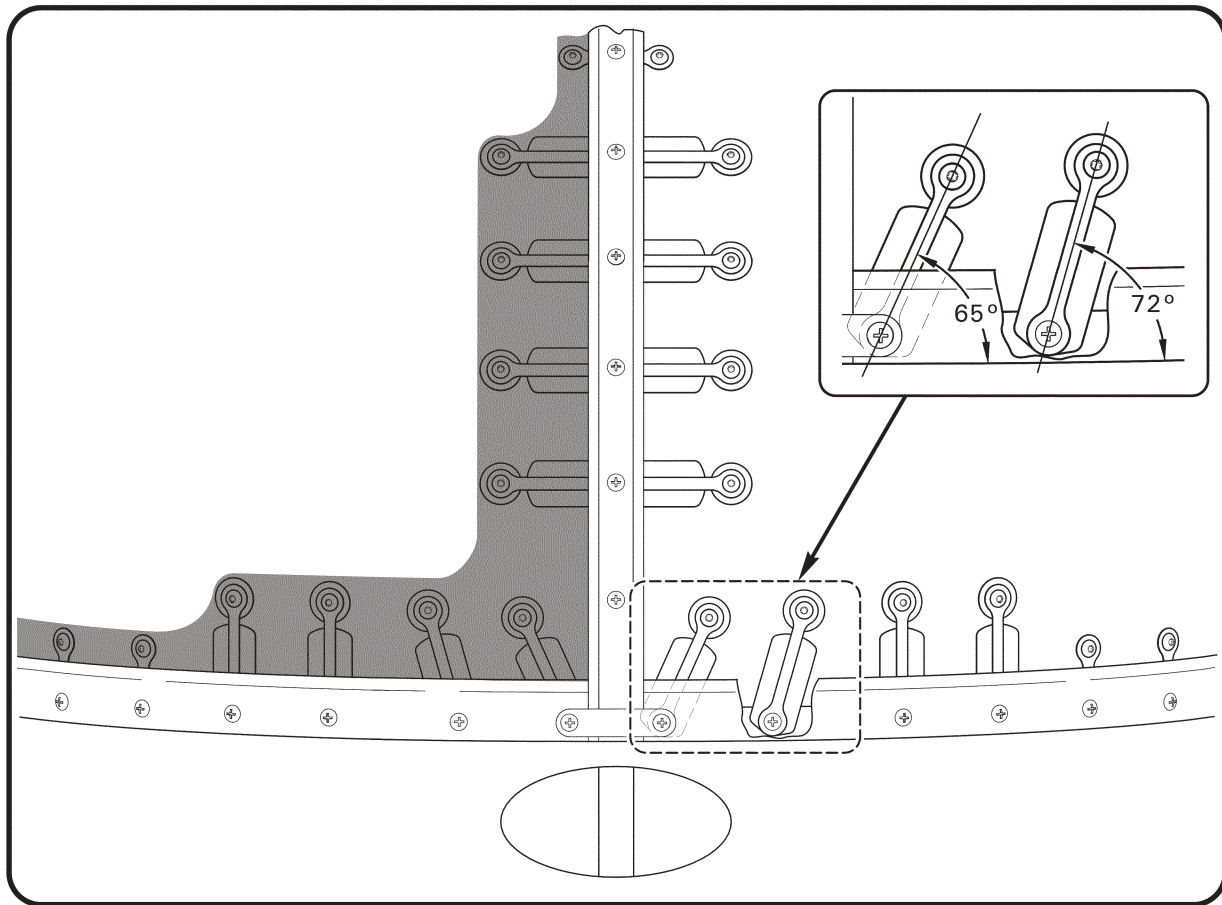

FIGURE 25-2 G367 TIES AND STRAPS INSTALLATION
5. Refer to Figure 25-2. Align G367 ties and straps perpendicular to retainers within 2° , except at locations shown. Install B410-3 stiffener and special torque screws per § 23-33. Match drill #40 pilot holes through windshield and install clecos.